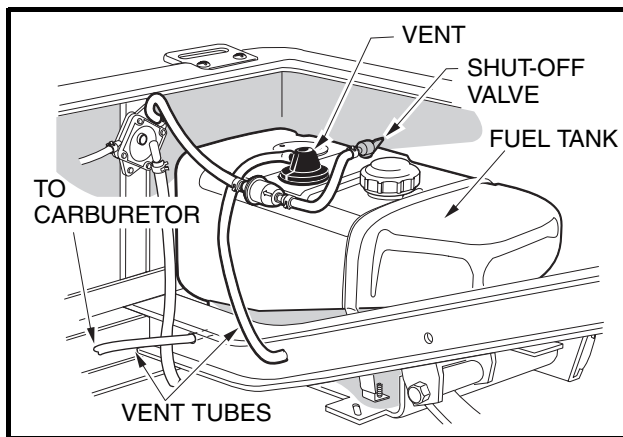

Figure 33 Fuel Tank
- If the vehicle has an all-weather enclosure installed, be sure the fuel tank is properly vented as shown (Figure 33).